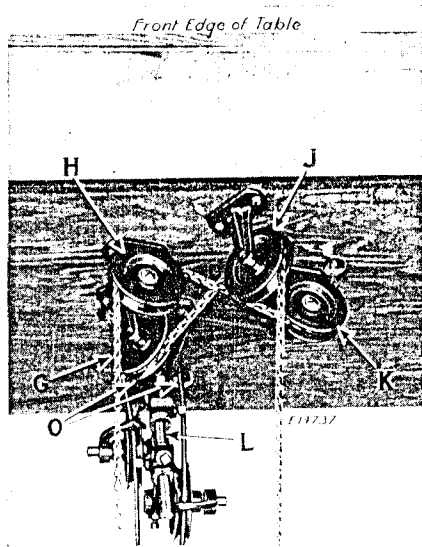

Fig. 2. Underside of Power Table,
There are four treadle chain pulleys (G, H, J and K, Fig. 2), each consisting of a bracket and a single pulley. Fasten one of these pulleys (K, Fig. 2) to the underside of the table directly below the clamp lifting lever (B, Fig. 16) and in line with the
chain adjusting slide on the left hand treadle. Fasten the second pulley (H) to the underside of the table directly over the chain adjusting slide and in line with the first pulley (K). Fasten the pulley (G, Fig. 2) to the underside of the table directly below the starting lever (C, Fig. 18) and in line with the chain adjusting slide on the right hand treadle. Fasten the fourth pulley (J, Fig. 2) to the underside of the table directly over the chain adjusting slide on the right hand treadle and in line with the pulley (G).
Two belt holes (O, Fig. 2) should be bored in the table directly below the machine driving pulley according to the location shown by the blueprint furnished with the machine and the belt idler (L, Fig. 2) mounted on the underside of the table directly below these two holes (O). The belt should be applied around the pulley on the shaft, around the idlers, up through the holes (O) in the table and around the pulley on the machine.